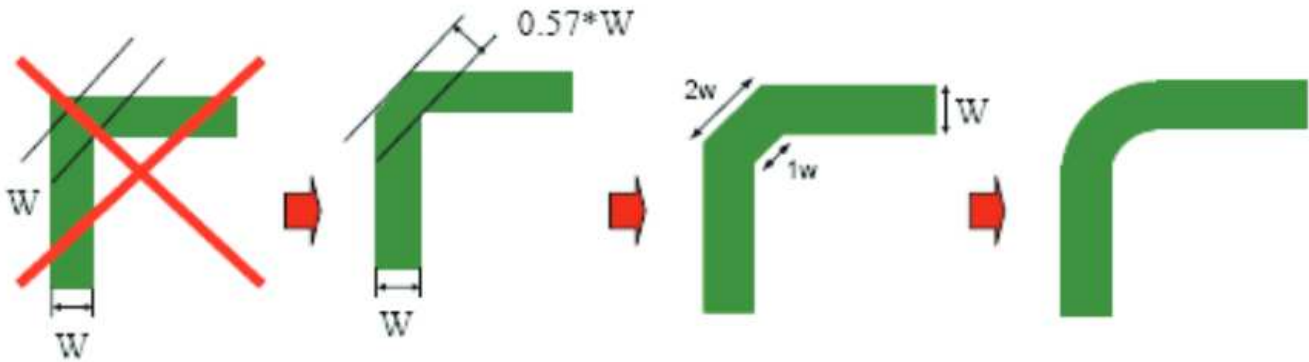

Figure 24. Poor and Good Right Angle Bends
- Avoid right-angle bends in a trace and try to route them at least with two 45° corners. To minimize any impedance change, the best routing would be a round bend (see Figure 24).